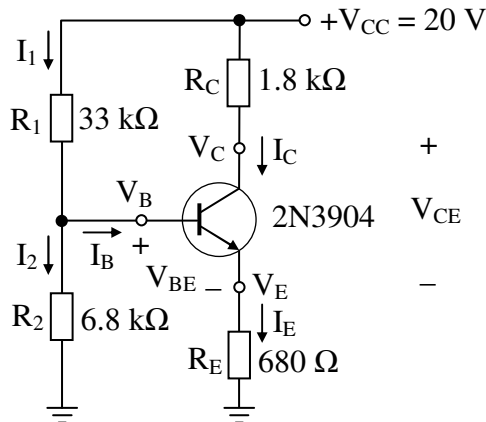

Fig. 6.5 Voltage-divider bias configuration
- Construct the network of Fig. 6.5 using the 2N3904 transistor. Insert the measured value of each resistor.
- Using the beta determined in Exp. 6.3.1 for the 2N3904 transistor, calculate the theoretical levels of I_B , I_C , I_E , V_E , V_B , V_C , and V_{CE} for the network of Fig. 6.5 using an approach that will result in the highest level of accuracy for each quantity. Insert the results in Table 6.4.
3. Energize the network of Fig. 6.5 and measure V_B , V_E , V_C , and V_{CE} and record in Table 6.4. In addition, measure the voltages V_{R_1} and V_{R_2} to the highest degree of accuracy possible. That is, try to measure the quantities to the hundredth or thousandth place. Then calculate the currents I_E and I_C and the currents I_1 and I_2 (using $I_1 = V_{R_1} / R_1$ and $I_2 = V_{R_2} / R_2$ from the voltage readings and measured resistor values. Using the results for I_1 and I_2 calculate the current I_B using Kirchhoff's current law:
5. Replace the 2N3904 transistor of Fig. 6.5 with the 2N4401 transistor. Then measure the voltages V_{CE} , V_{R_C} , V_{R_1} , and V_{R_2} . Again, be sure to read V_{R_1} and V_{R_2} to the hundredth or thousandth place to insure an accurate determination of I_B . Then calculate I_C , I_1 , I_2 , and determine I_B . Complete Table 6.5 with the levels of V_{CE} , I_C , I_B and beta for this transistor.